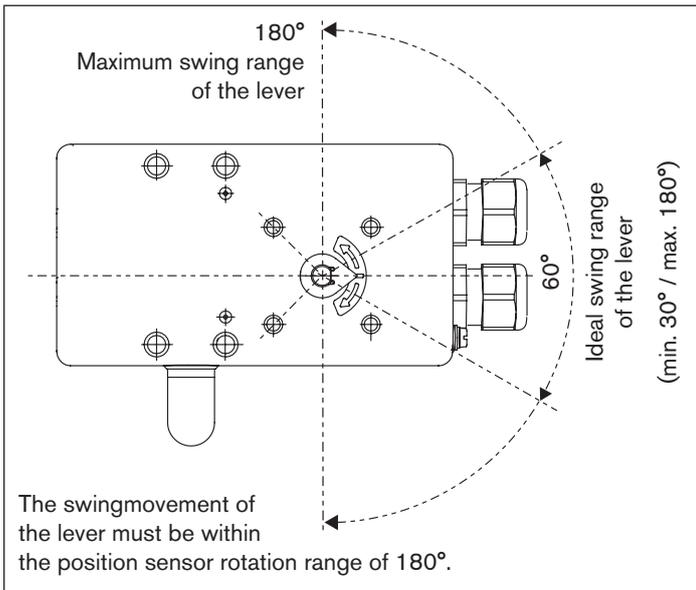

Fig. 7: Swing range of the lever
- !** The gap between the driver pin and the shaft should be the same as the actuator stroke. As a result, the lever has a swing range of 60° (see "Fig. 7").